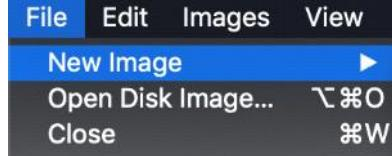

Figure 5.10 – New Image menu
5. In the menu bar, select **File | New Image** (Figure 5.10):